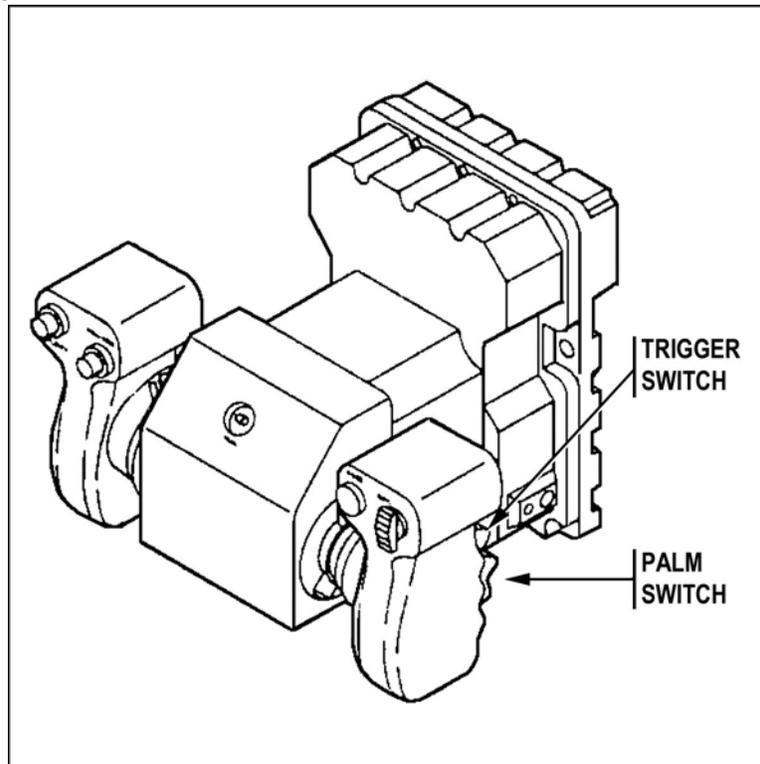

Figure 18. DROP TRK button.
- (1) Select and arm the desired weapon system.
- (2) Squeeze and hold the palm switch.
- (3) Traverse the turret and or elevate or depress the gun as needed to center the reticle crosshairs on target.
- (4) Squeeze the trigger switch.
- (5) When target is destroyed release the palm switch and trigger switch.
- h. Drop the track box (Figure 18).